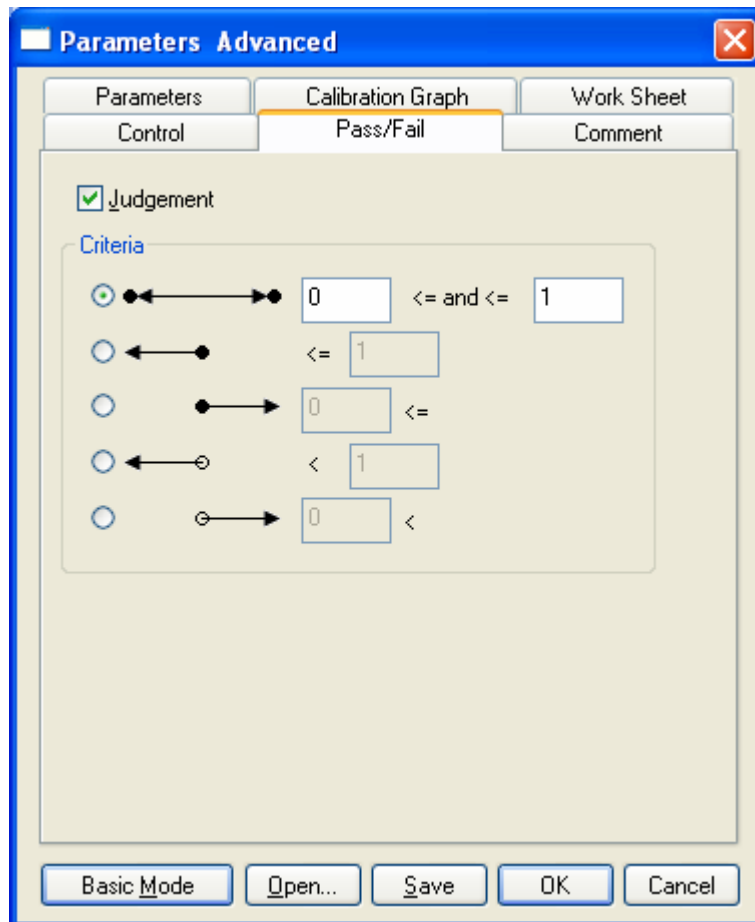

Figure 5.15 [Parameters Advanced] Dialog, [Pass/Fail] tab
- (5) Click the [Pass/Fail] tab and the window shown in Fig. 5.15 is displayed. The pass conditions for the concentration from the quantitative analysis results obtained from the Quantitative Analysis program are set in the [Pass/Fail] tab. In this example, $[0 \leq \text{ and } \leq 1]$ is set.